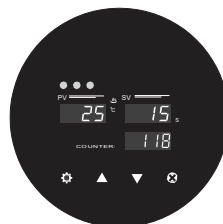

Fig.14
3. After selected, then give a long press about 8 seconds to the (⚙️) set button, it will record settings and back to the original panel to work (Fig.14).